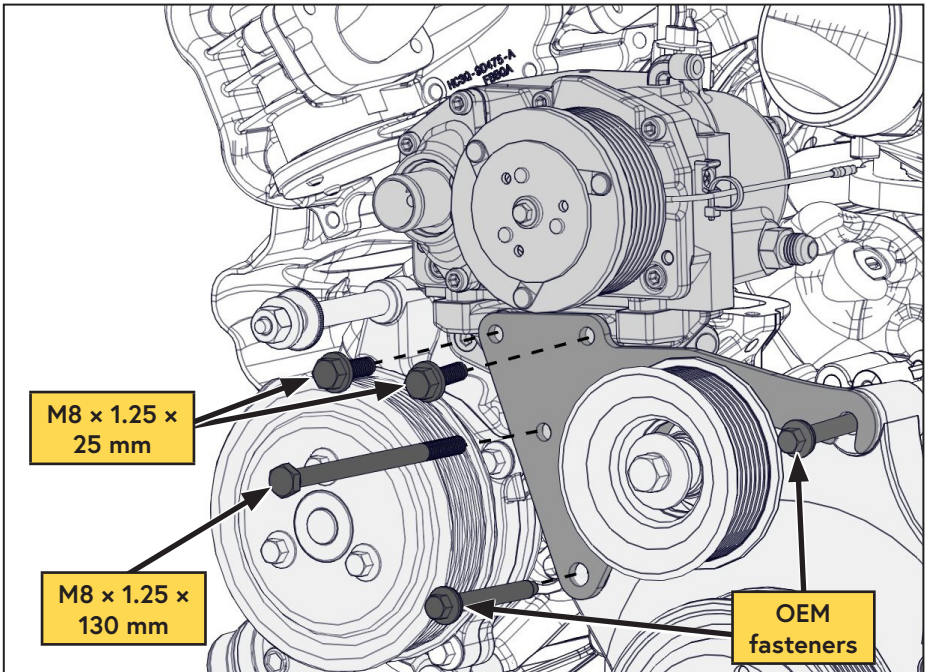

Figure 15 — Install brace bracket
- Install the compressor brace bracket and torque to specification. Note the location of the OEM and VMAC supplied fasteners (Figure 15).